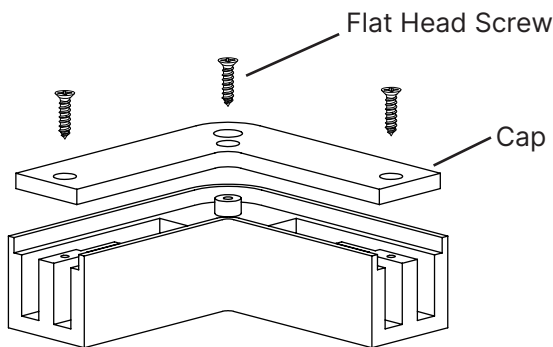

Fig. 2
3. Remove **Flat Head Screws** and **Cap** (Fig. 2).
1. Remove **Flat Head Screws** and **Cap** (Fig. 2).